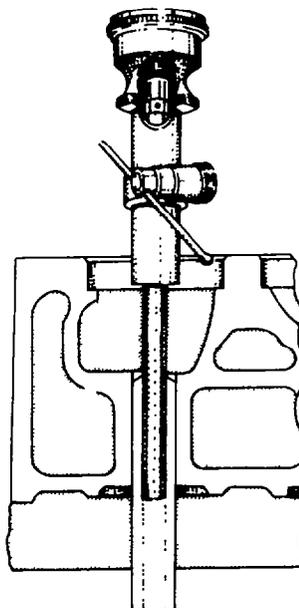

Fig. 38 — Checking Valve Seat Run-out
- f. After the valve seats have been ground to specifications and properly cleaned, check the valve seat run-out using Sioux Tool X825 (see fig. 38).